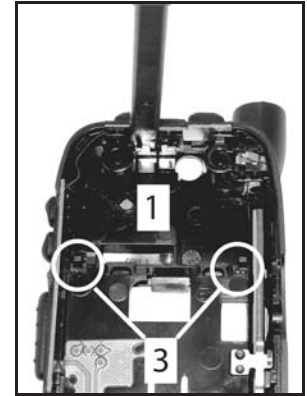

Figure 7-14.
1. Place flat tip of black stick between GPS antenna contacts and bottom of mute/smart button keypad. See Figure 7-14.